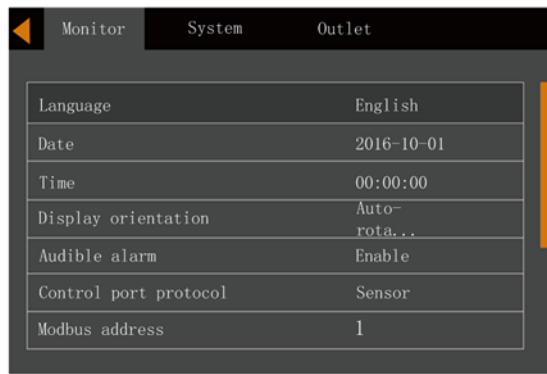

Figure 5-19 Monitor interface
2. Press the key to move the cursor to 'Monitor', see Figure 5-19.